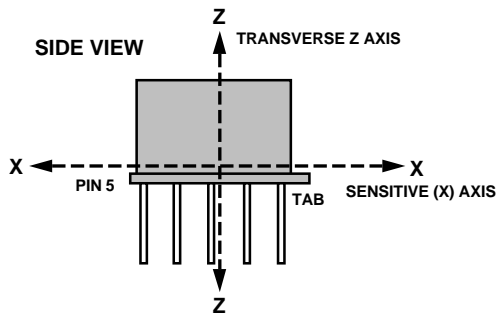

Figure 2a. Sensitive X and Transverse Z Axis
The ADXL50 responds to the component of acceleration on its sensitive X axis. Figures 2a and 2b show the relationship between the sensitive "X" axis and the transverse "Z" and "Y" axes as they relate to the TO-100 package.
**Sensitive Axis (X):** The most sensitive axis of the accelerometer sensor. Defined by a line drawn between the package tab and Pin 5 in the plane of the pin circle. See Figures 2a and 2b.